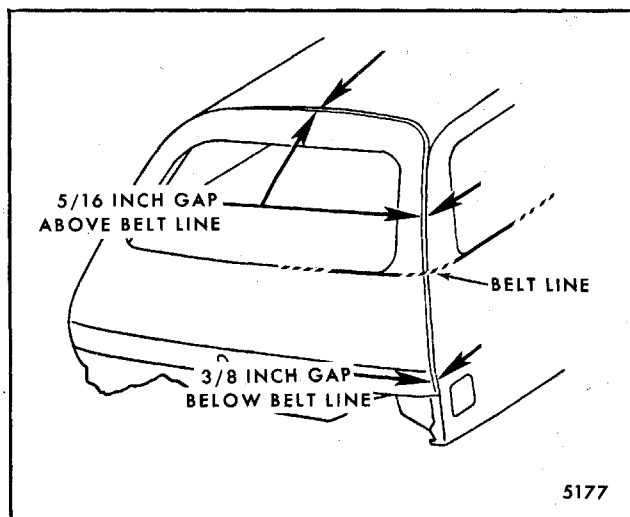

Fig. 7-118-Tailgate Alignment
8. Check tailgate position in opening. If further adjustment is required, repeat preceding steps (Fig. 7-118).
4. Securely tighten striker bolt and close gate to check alignment. Repeat preceding steps if required (Fig. 7-118).